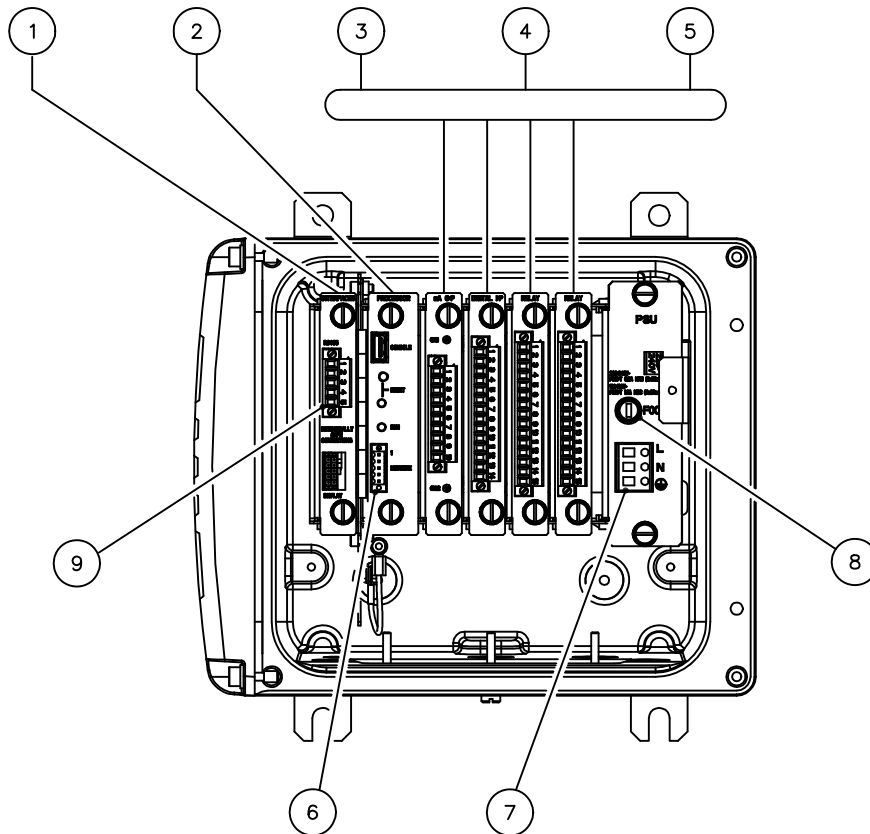

Figure 18 Model 2210 Control Unit (Zone 2, Div 2) layout
2. Check resistance below, refer also to Figure 18